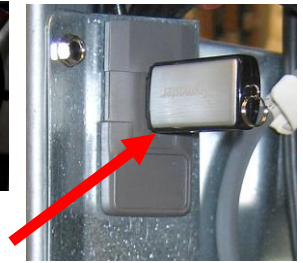

Figure 6
- Insert the USB flash drive (see Figure 6).